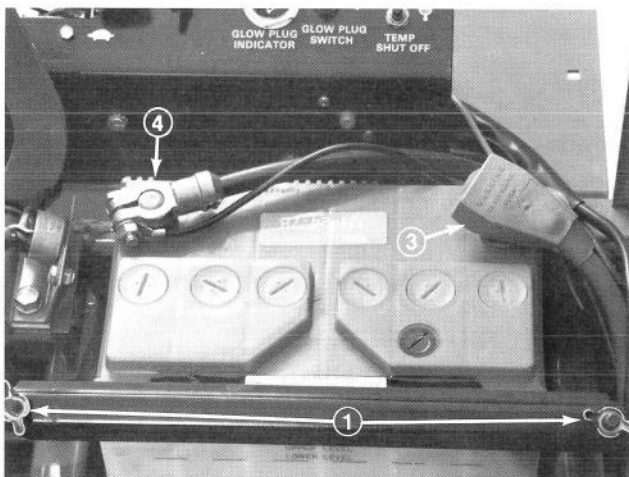

Figure 5
- Remove two wing nuts and hold down strap that secure battery in place (Fig. 5). Lift battery out of Chassis. Keep wing nuts and hold down strap in a safe place for later use.
1. Install battery and secure with hold down strap and wing nuts (Fig. 5). Remove tape over ends of each cable.
2. Slide the red, positive battery cable (Fig. 5) onto positive battery post and tighten nut securely.
3. Slide the black, negative battery cable (Fig. 5) onto negative battery post and tighten nut securely.
4. Coat both battery connections with either Grafo 112X (skin-over) grease, Toro Part No. 505-47, petroleum jelly or light grease to prevent corrosion and slide rubber boot over positive terminal (Fig. 5).